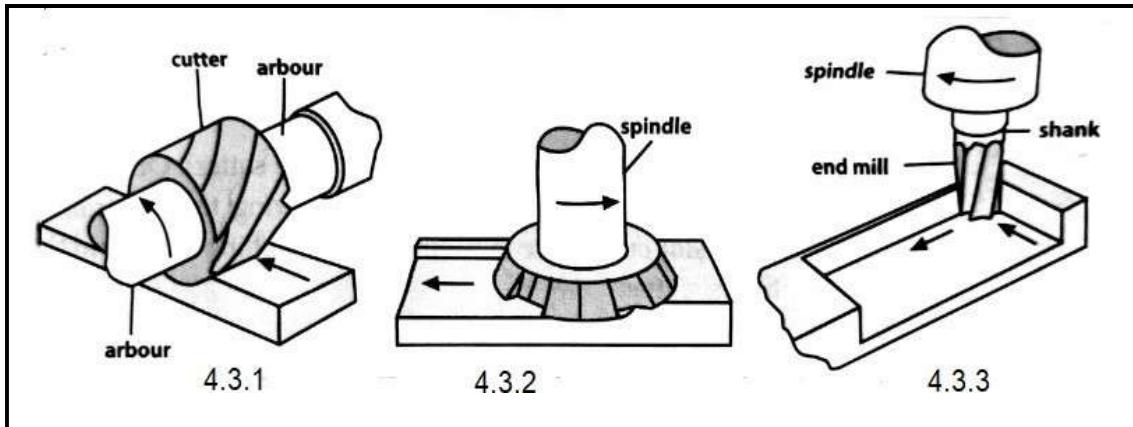

FIGURE 1
- 4.3 Identify the cutting operations shown in FIGURE 1 below and write your answer next to the question number (4.3.1–4.3.3) in your ANSWER BOOK.